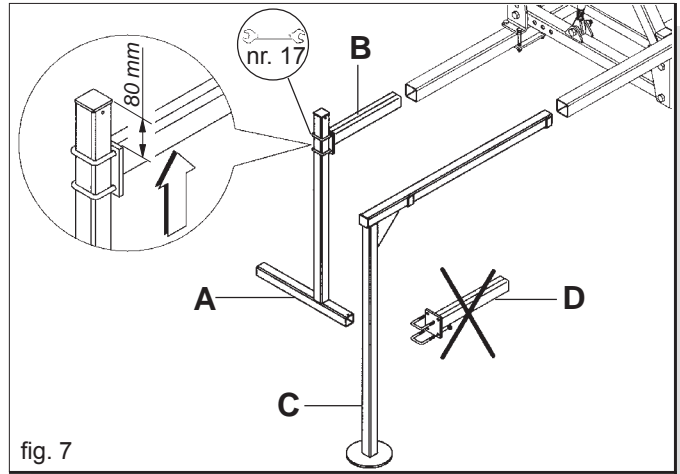

fig. 7
- slide out the rear support props (A Fig. 7) (right and left);
- slacken the nuts of the linkage (B Fig. 7) and position it at a height of 80 mm as shown in the figure;
- slide out the front support props (C Fig. 7) (right and left);
- unscrew the nuts and remove the linkage (D Fig. 7);